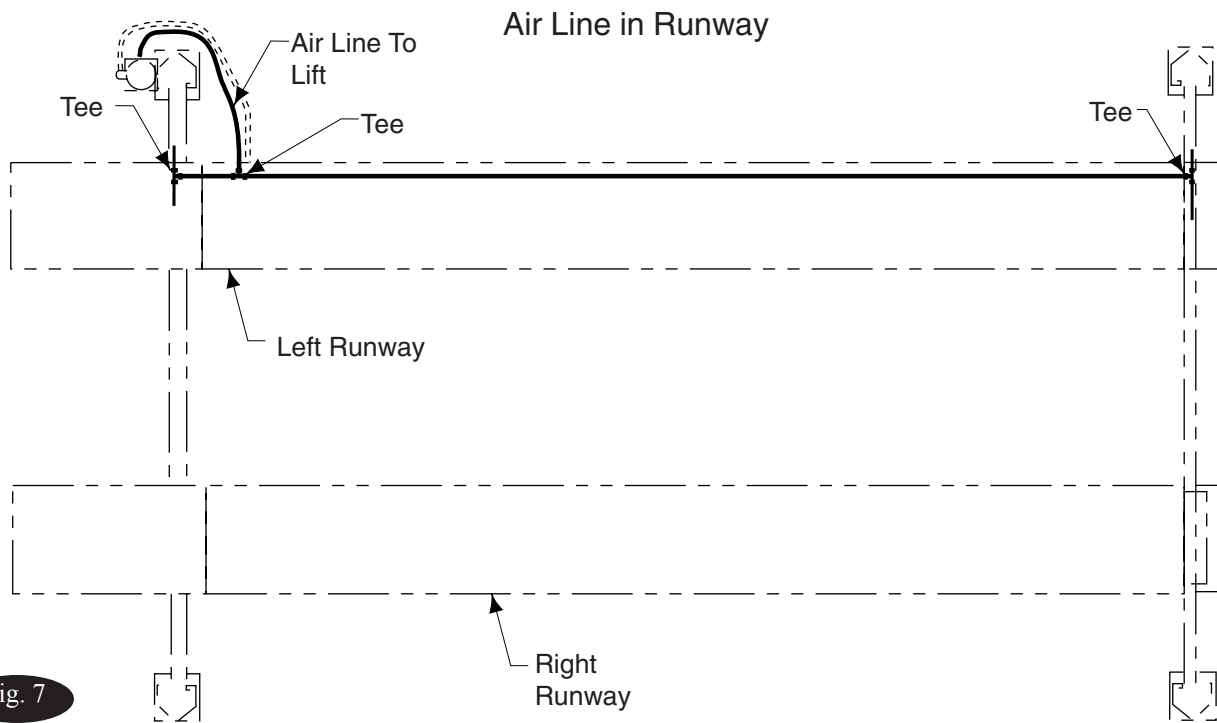

Fig. 7
- Insert each end of the left runway's  $\frac{1}{4}$ " air line into the Tee's connecting the locking latch air cylinders in each yoke, Fig. 7.